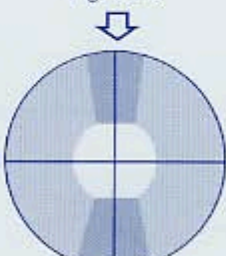

Fig. 24-E
9. Using the collector lens focusing knob ④, narrow the light beam. (Fig. 24-A)